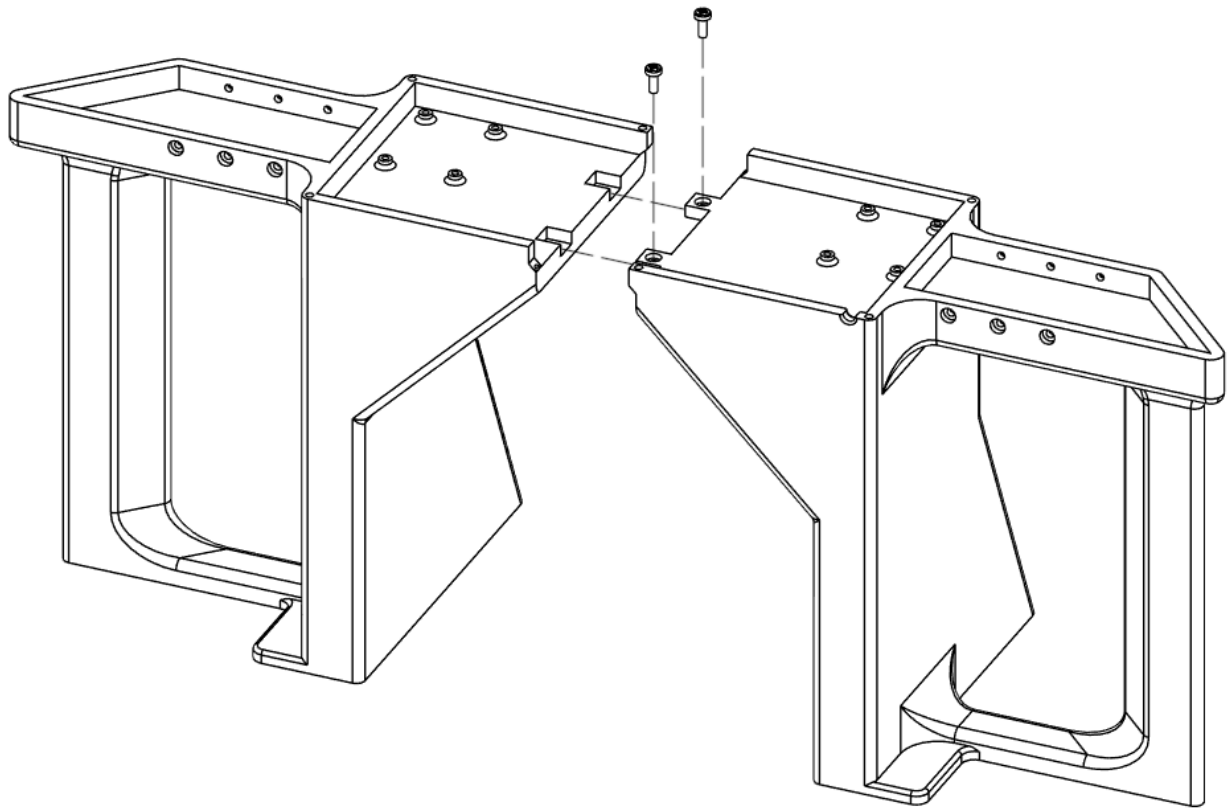
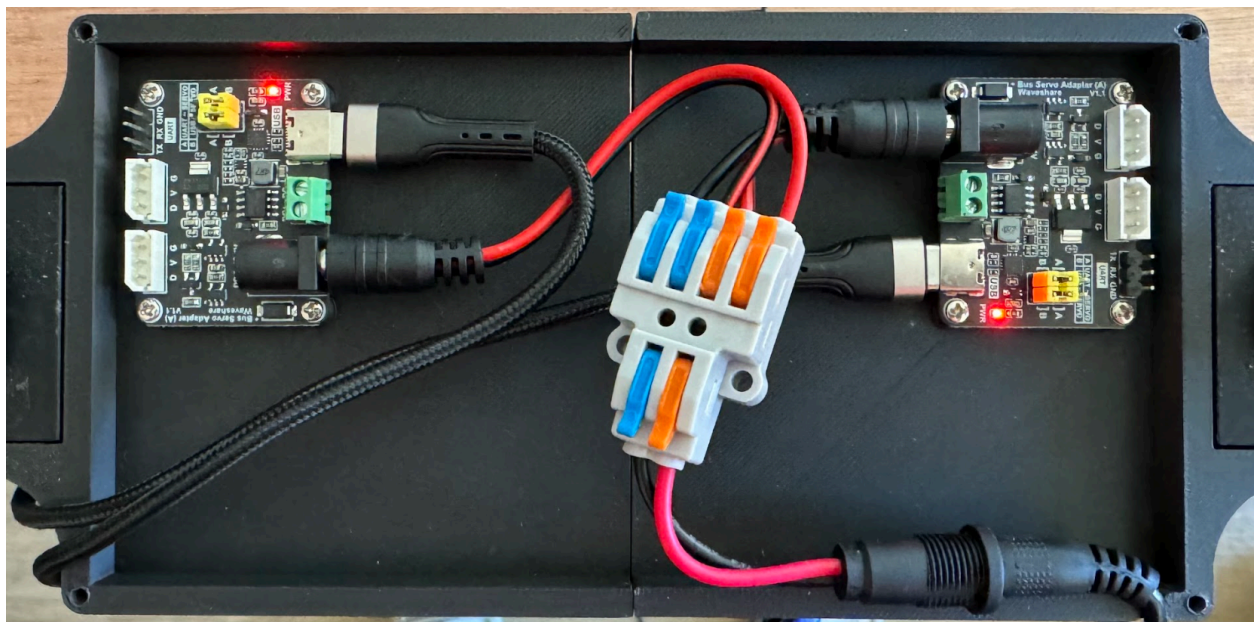
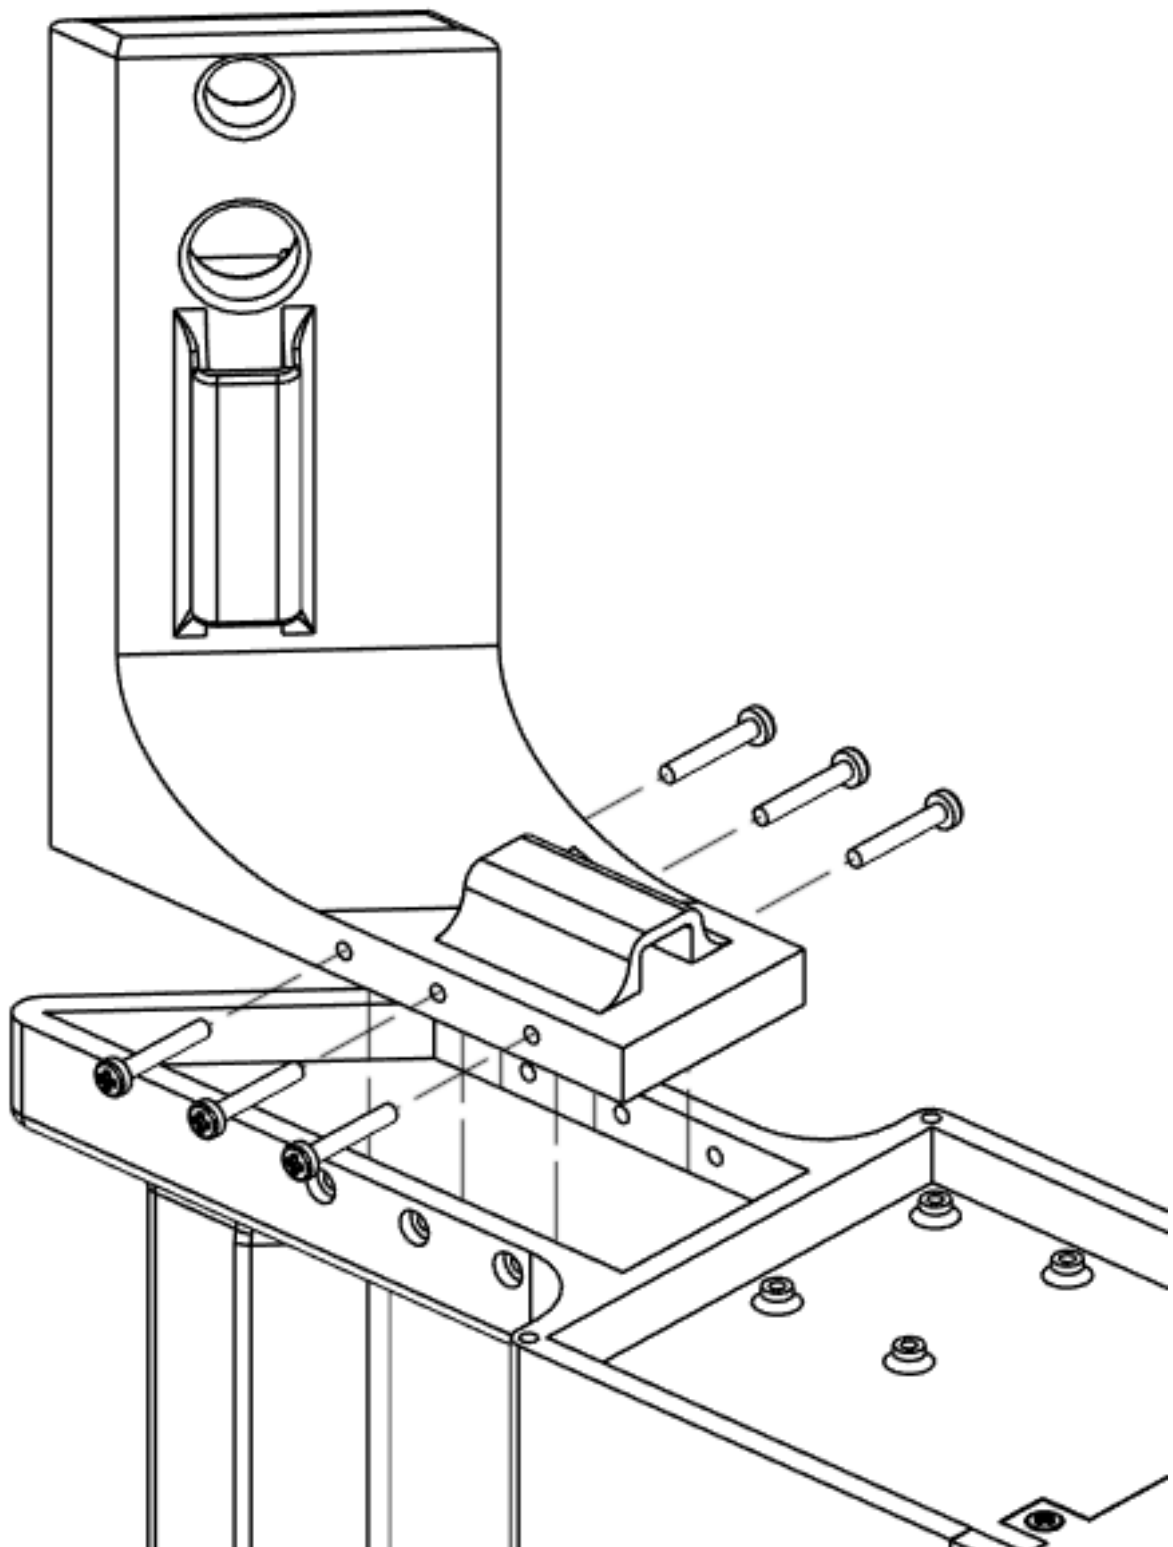
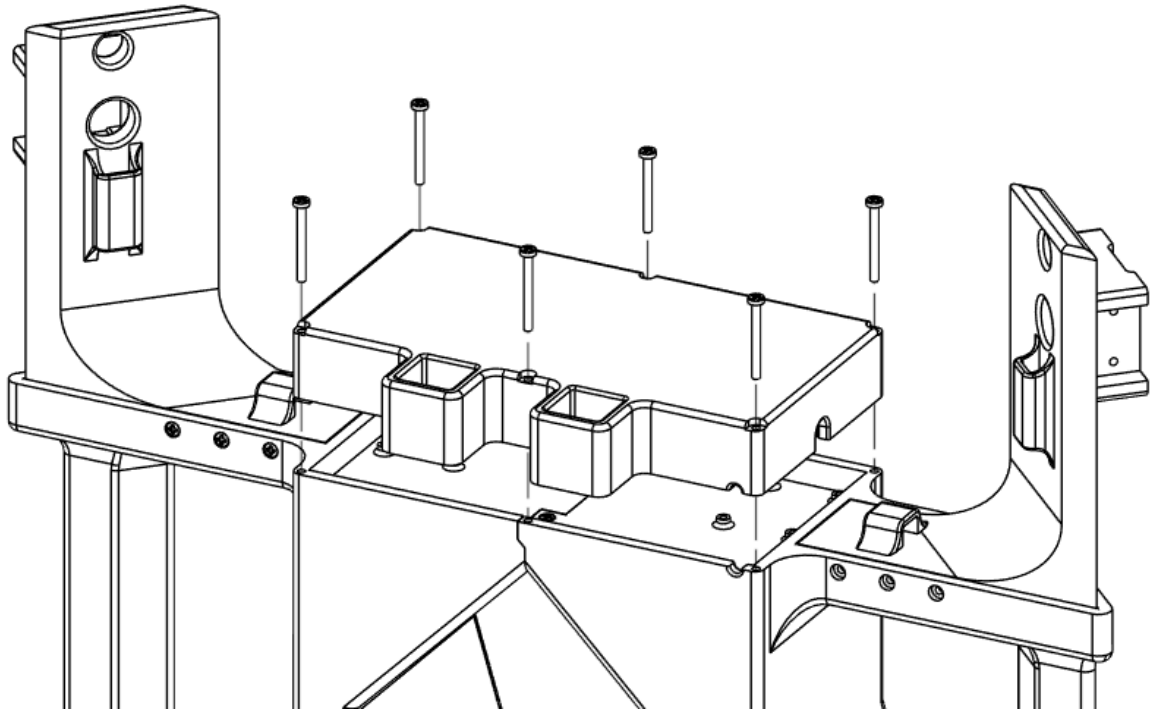

Figure 1.1 - Teleop Stand Assembly
Figure 1.2 - Teleop Stand Electronics Assembly
Figure 1.3 - Teleop Arm Base Assembly
Figure 1.4 - Teleop Stand Lid Assembly
1. Fasten Teleop Stand Right to Teleop Stand Left as shown in Figure 1.1
- a. (2) M3x8mm
2. Fasten (2) Motor Driver Boards to Teleop Stand Left and Teleop Stand Right as shown in Figure 1.2
- a. (8) M2.5x8mm
3. Connect cables to Motor Driver Boards as shown in Figure 1.2
- a. (2) Barrel Jack Power Cable - Male (~60mm in length)
- b. (1) Barrel Jack Power Cable - Female (~25mm in length)
- c. (1) Sourcsey Teleop Power Cable
- d. (1) Wire Splitter
- e. (2) USB-C to USB Data Cable
5. Fasten Teleop Arm Base to Teleop Stand as shown in Figure 1.3
- a. (6) M3x20mm
6. Connect (1) 400mm Arm Motor Cable to Motor Driver Board and thread through channels up to the top of Arm Base
7. Fasten Teleop Stand Lid to Teleop Stand as shown in Figure 1.4
- a. (6) M3x30mm